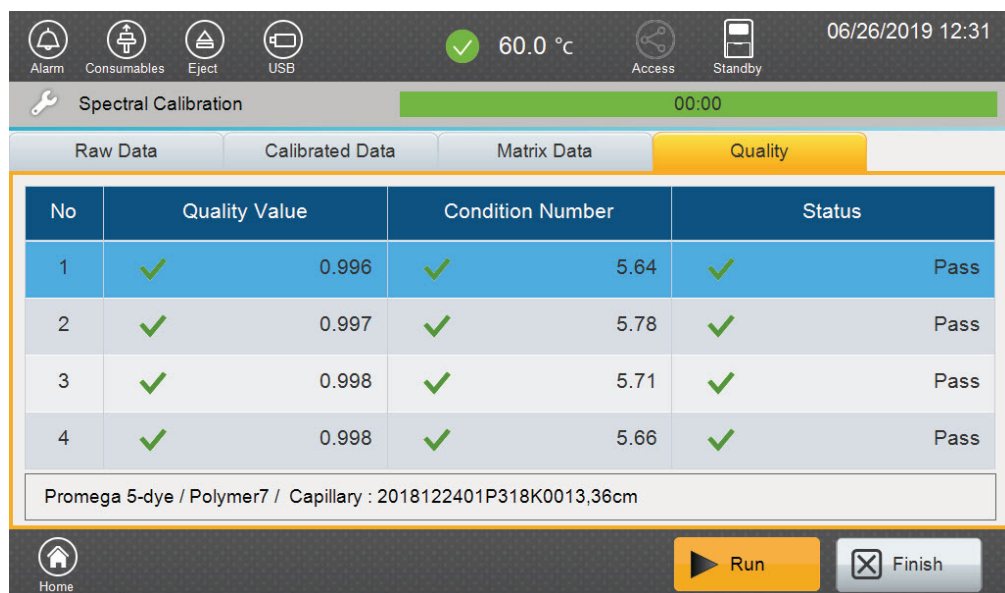

Figure 13. Spectral Calibration 'Quality' tab screen.
4. Review the quality of the spectral calibration by selecting the 'Quality' tab (Figure 13).